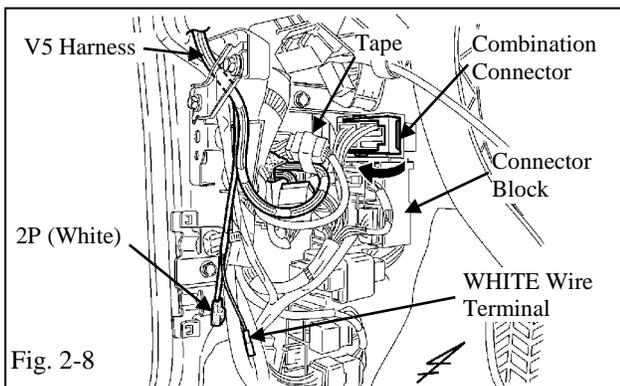

Fig. 2-8
- (n) Locate and disconnect the combination connector from the connector block in the driver side cowl area. (Fig. 2-8)